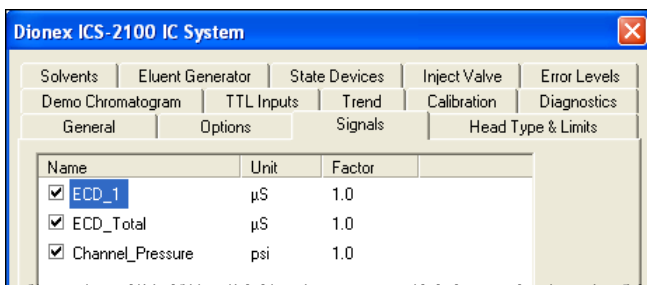

Figure 98. Pump Pressure Channel Enabled
- c. Verify that the **Channel_Pressure** check box is selected (see Figure 98).